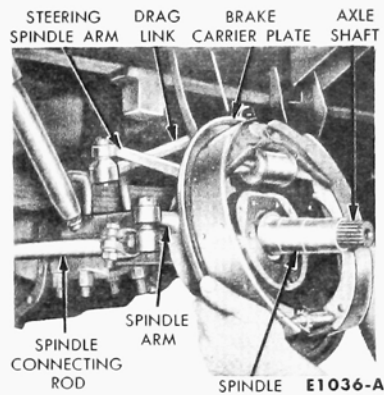

FIG. 11—Brake Carrier Plate Removal or Installation
5. Remove the cap screws which retain the brake carrier plate and spindle to the spindle arm. Remove the brake carrier plate and spindle (Fig. 11).
cap screws (Fig. 11). Install the oil baffle.